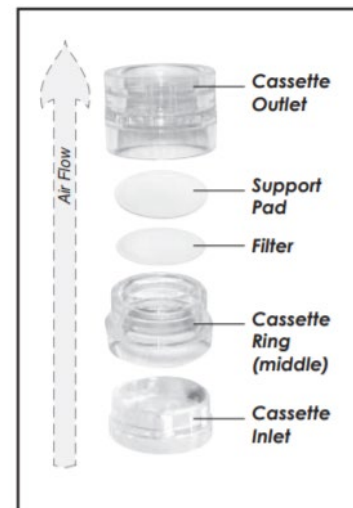

Figure 1. Filter assembly
1. Preparing the Filter Cassettes — Figure 1
The filter cassette blank holds the filter securely in place during sampling. The cassette consists of an inlet section, an outlet section, and possibly a middle ring or extension cowl. The cassette with all three sections can be used with the inlet in place (closed face) or with the inlet removed (open face) depending on the sampling method. The filter is assembled as described below and as shown in Figure 1.